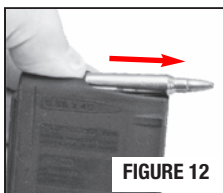

FIGURE 12
- Unload the magazine by holding it with the bullet end of the cartridge pointing away from you and others and pressing each cartridge forward and out of the magazine (FIGURE 12).